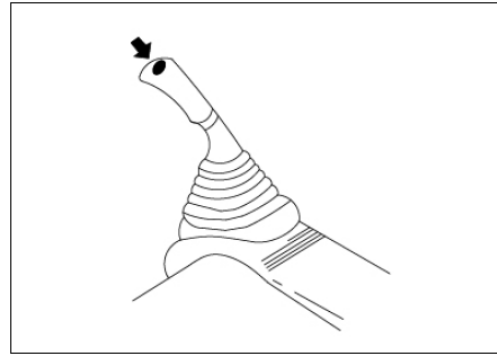

Figure 4-38 Instantaneous power enhancing button
a) During operation, in order to increase the power, you can use the touch-style power enhancing switch shown in Figure 4-38. This function should be used effectively in view of the working conditions whenever necessary.